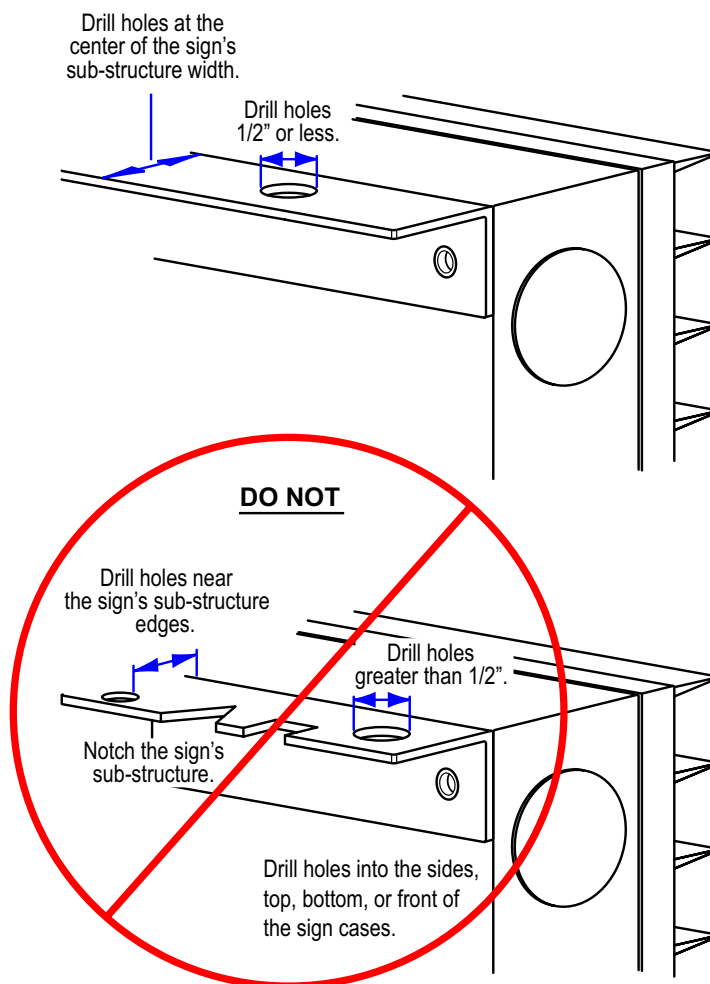

Figure 19. Drilling guidelines
- **DO NOT** modify the sign or sign's sub-structure for ventilation purposes (see Figure 19 on page 27). The super-structure design **MUST** incorporate adequate ventilation.